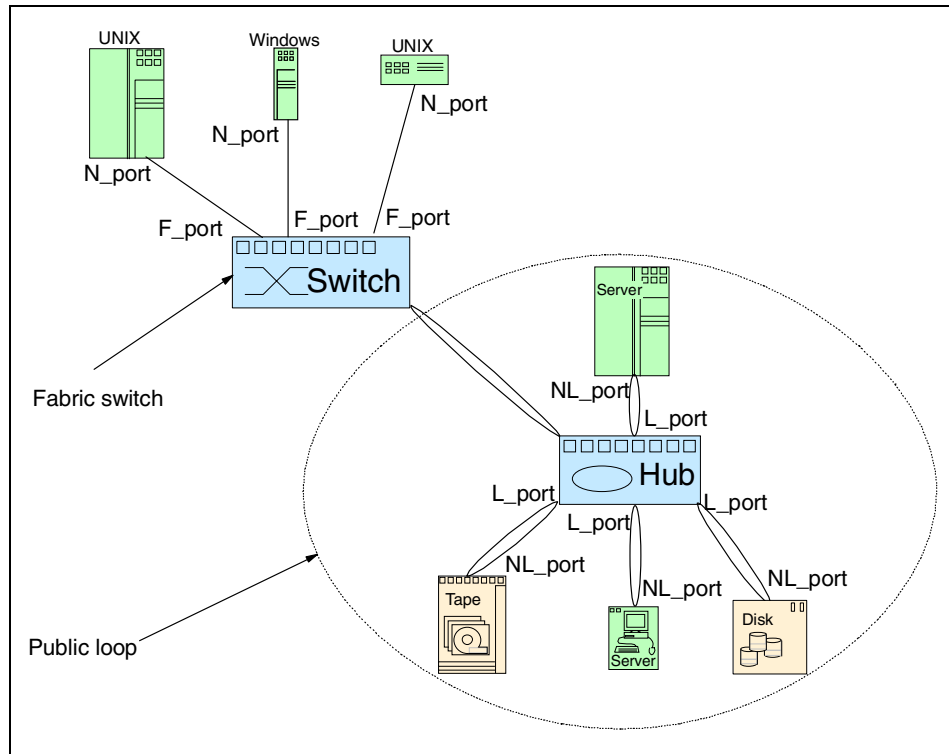

Figure 2-13 Public loop implementation
- ▶ **Public loop:** A public loop requires a fabric and has at least one FL\_Port connection to a fabric. A public loop extends the reach of the loop topology by attaching the loop to a fabric. Figure 2-13 shows a public loop.